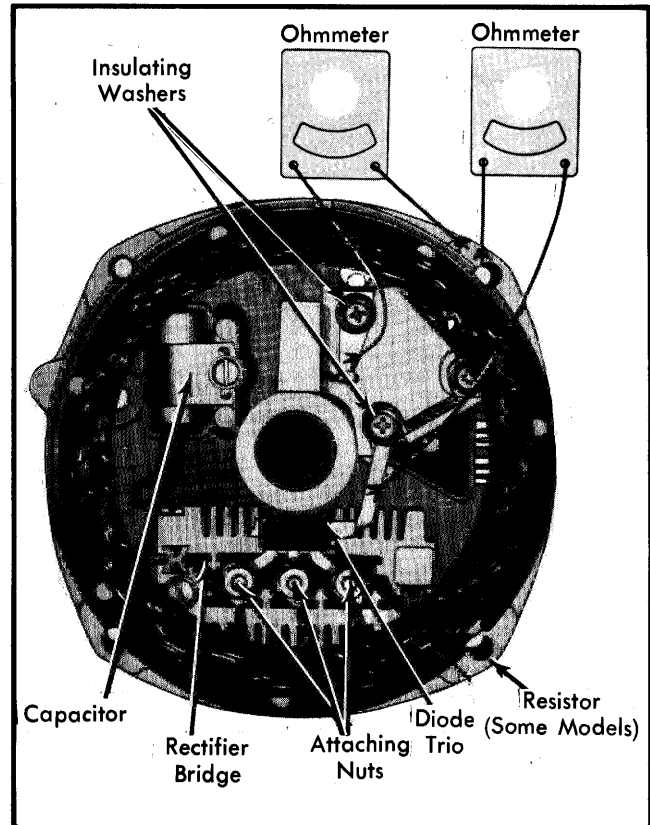

Fig. 14 Bench Testing Voltage Regulator Brush Lead Clips Using an Ohmmeter
1) Connect an ohmmeter (lowest range) from brush lead clip to end frame. See Fig. 14. Then reverse leads. If both readings are zero, either the brush clip is grounded or the regulator is defective.